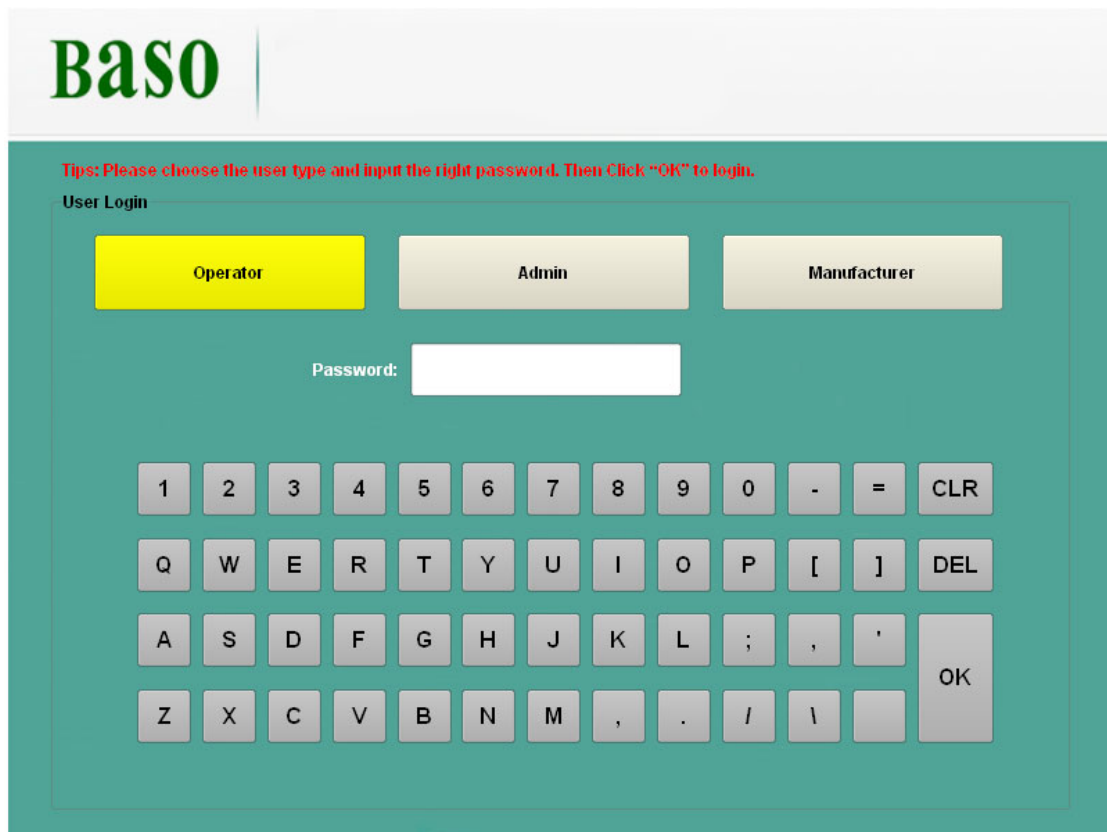
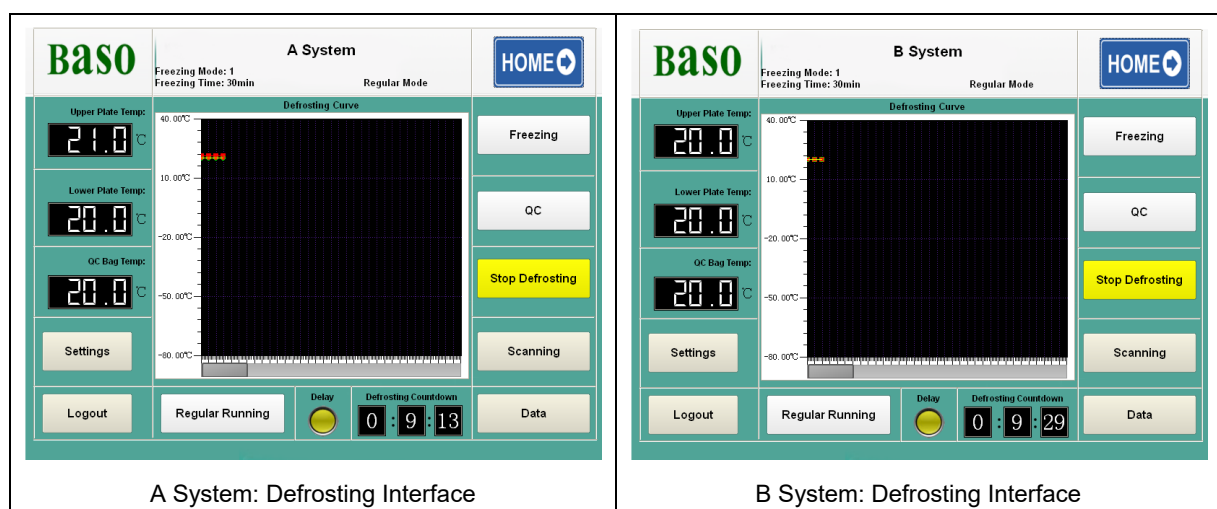
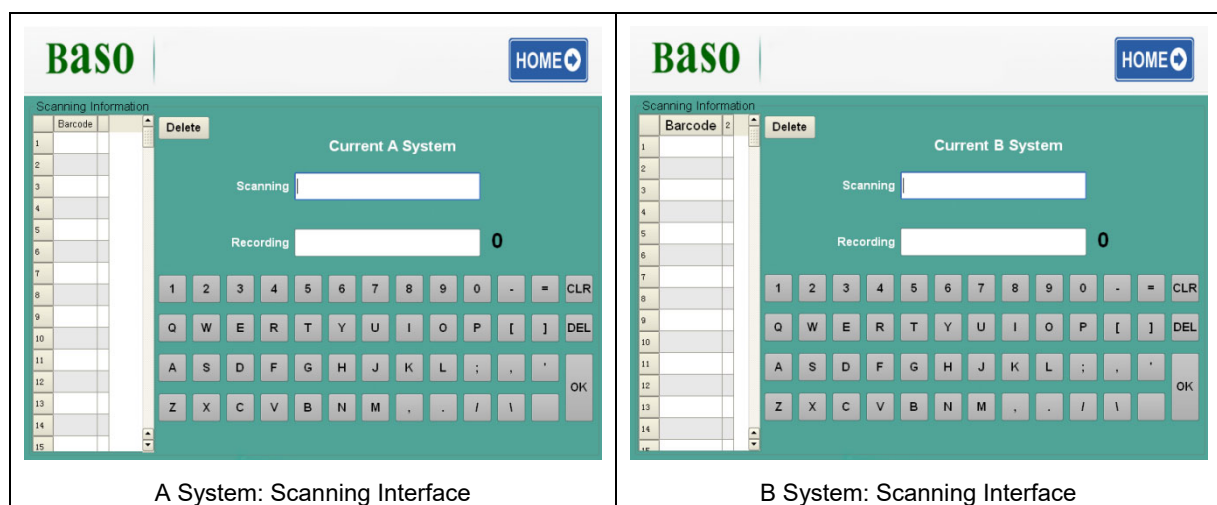

Fig 4.1 Main Interface
Fig 4.10 Defrosting Interface
Fig 4.11 Scanning Interface
Step 1: Start Up: open the air switch, and rotate the emergency button clockwise. Then enter into the main interface (Fig 4.1).
Step 2: Click the "Defrosting" on the main interface (Fig 4.1), or press the "Defrosting" button for 3s on the right side of the A/B System, then automatically turn to the defrosting interface (Fig 4.10). It takes 8min for defrosting and the temperature of both cold plates reaches 40°C.
- a) Click "A/B System" in the main interface (Fig 4.1) to enter, then click "Scanning" in A/B system (Fig 4.11)
Confirm the authorization first, click "A/B System" in the main interface (Fig 4.1) to enter, then click "Data" to enter the data interface of A/B System (Fig 4.12) for searching data. After finished, click "Home" to go back to the A/B System interface.